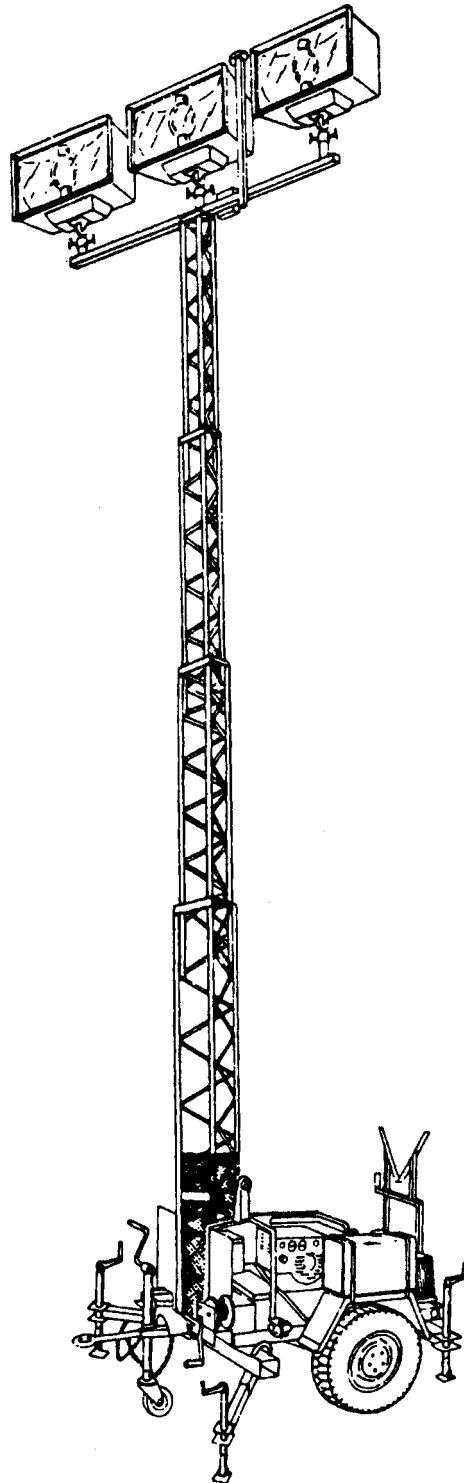

Figure 1-1. Floodlight Set With Tower Extended
a. Characteristics . The Model HLT-3K-5K-MIL Floodlight Set provides light for construction, maintenance, and other service and support activities in order to continue their mission during the hours of darkness. The floodlight is shown in Figure 1-1. The set provides adequate area and point lighting for construction, maintenance, or emergency service and service supported activities at construction or maintenance field locations.
- (1) Trailer mounted.
- (2) Ground portable.
- (3) Quickly operable.
- (4) Air transportable.